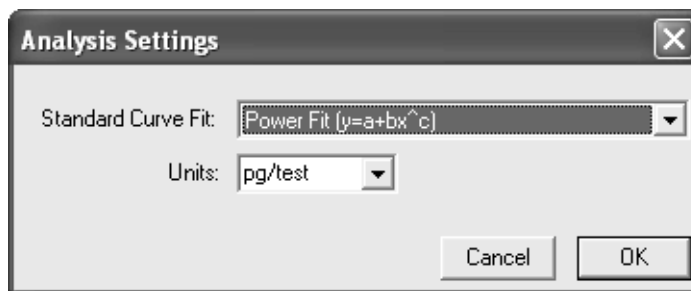

Figure 4-4: The Analysis Settings Dialog
- 2) The Analysis Settings dialog opens (Figure 4-4).